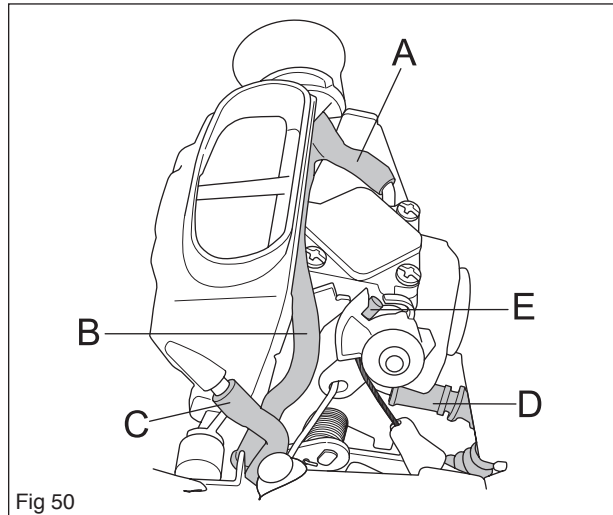

Fig 50
3. Loosen the hoses A to D. See figure 50.
6. Hook on the throttle cable E in the intake below. See figure 50.